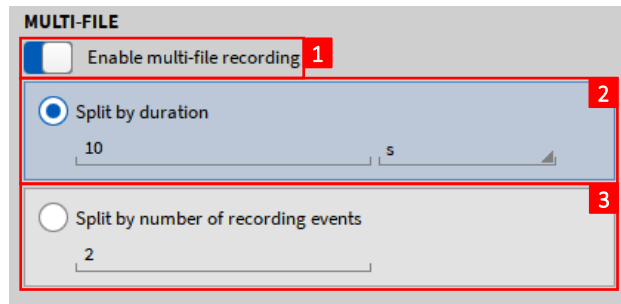

Figure 4-5: Multi-file menu
If *Multi-File Recording* is enabled (see ① in Figure 4-5), OXYGEN supports two different ways to split files: *Split by duration* and *Split by number of recording events*.
If *split by duration* (see ② in Figure 4-5) is selected, OXYGEN stores data automatically to a new file if the defined time interval is exceeded. I.e. in the example of Figure 4-5, a new data file will be created after 10s, 20s, 30s, ... overall recording time. The minimum time interval is 10 seconds.
If *split by number of recording events* (see ③ in Figure 4-5) is selected, OXYGEN creates a new data file if the defined number of recording events is reached. I.e. in the example of Figure 4-5, a new data file will be created after the 2nd, 4th, 6th, ... recording event is terminated.